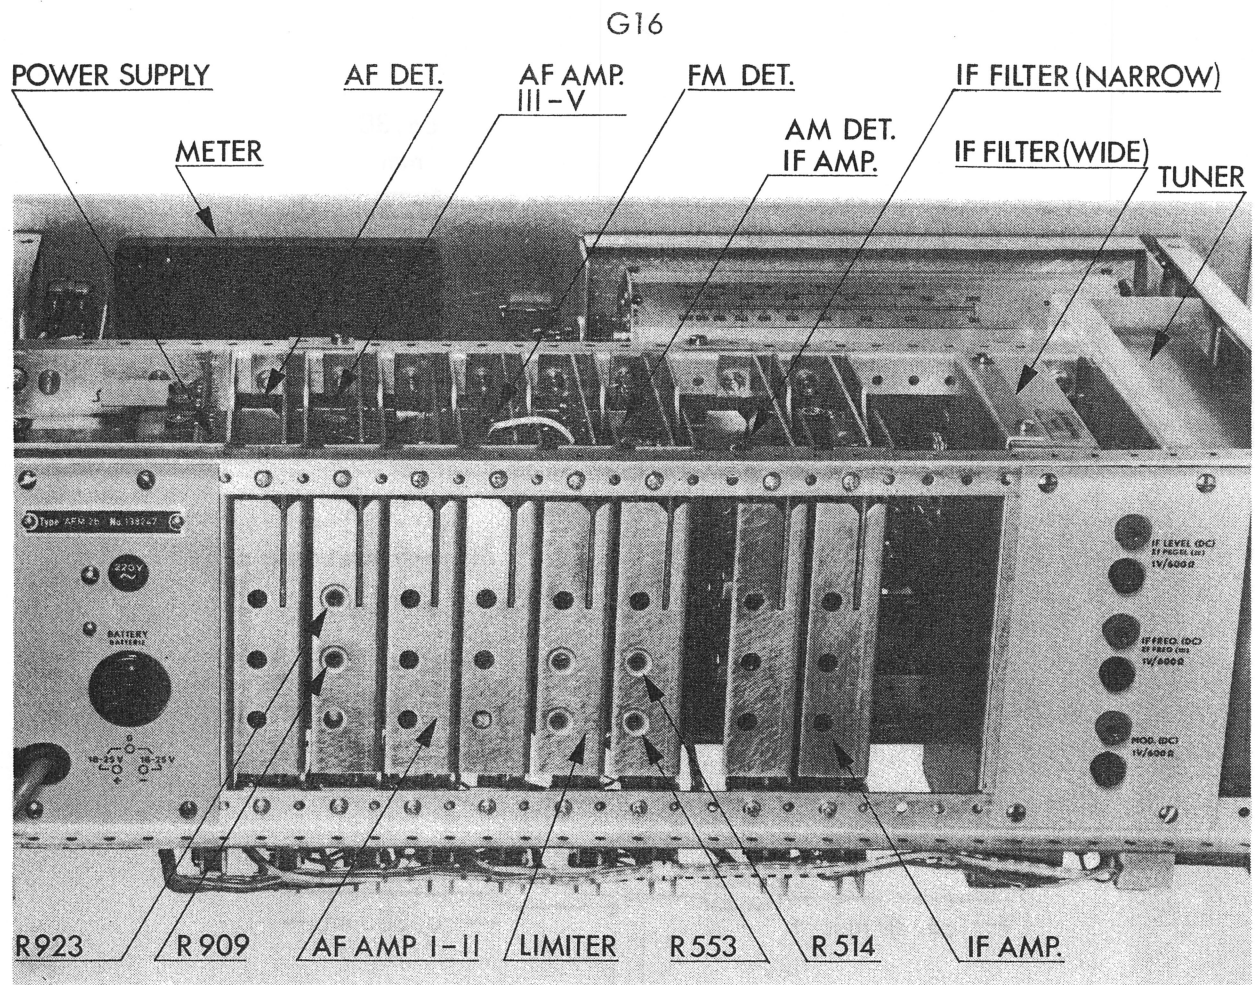

Fig. G4.
- 129) Using a trimming tool, adjust potentiometer R909, shown in Fig.G4, until the AC DVM indicates 0.672 V (rms value).
- 130) Using a trimming tool, adjust the potentiometer R923, shown in Fig.G4, until the METER on the AFM2 indicates 30.